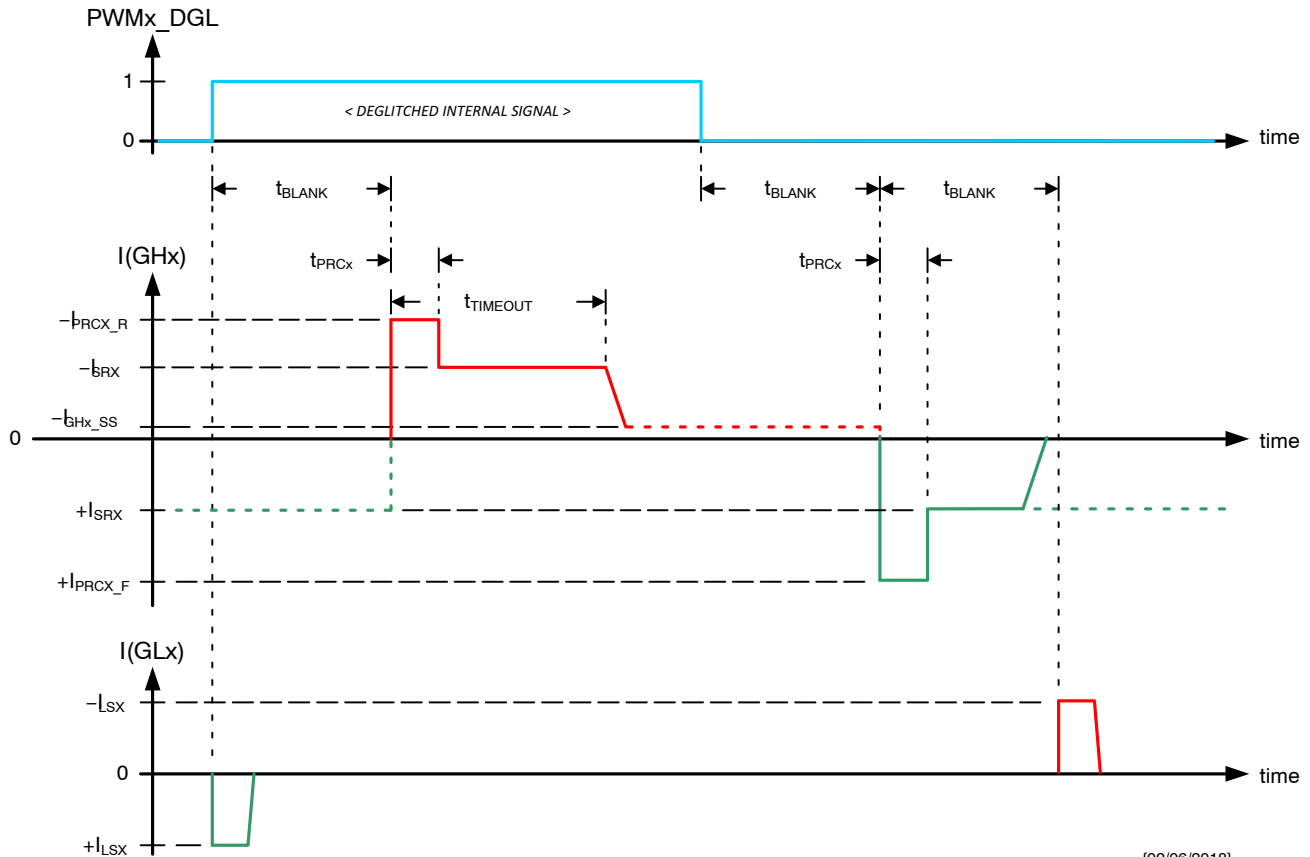
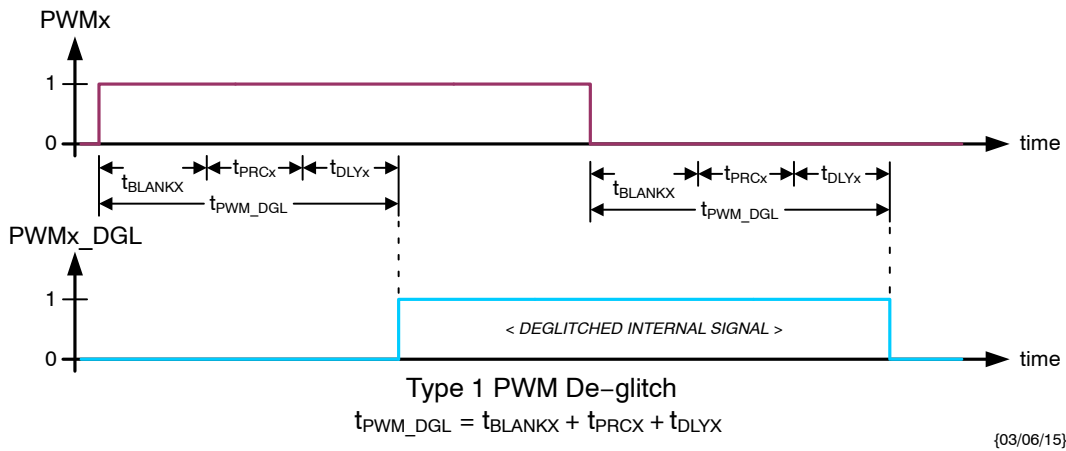
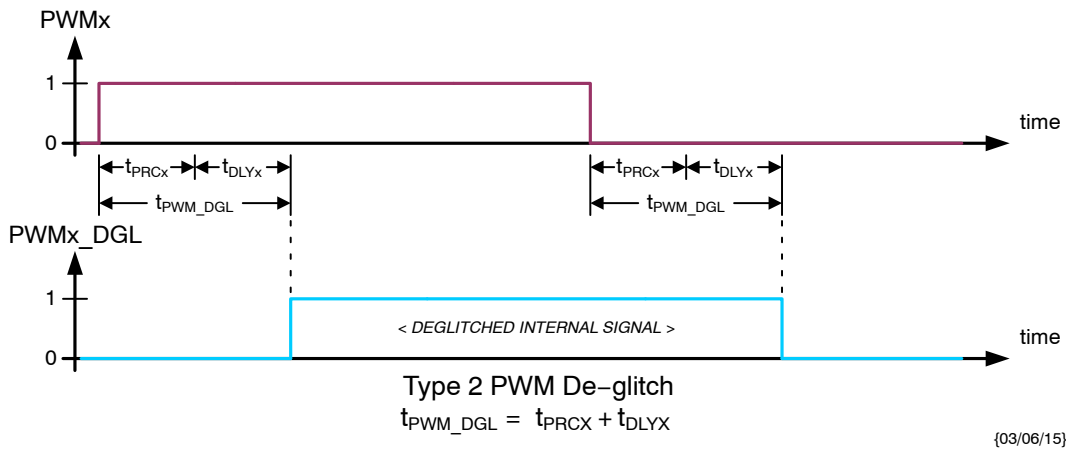
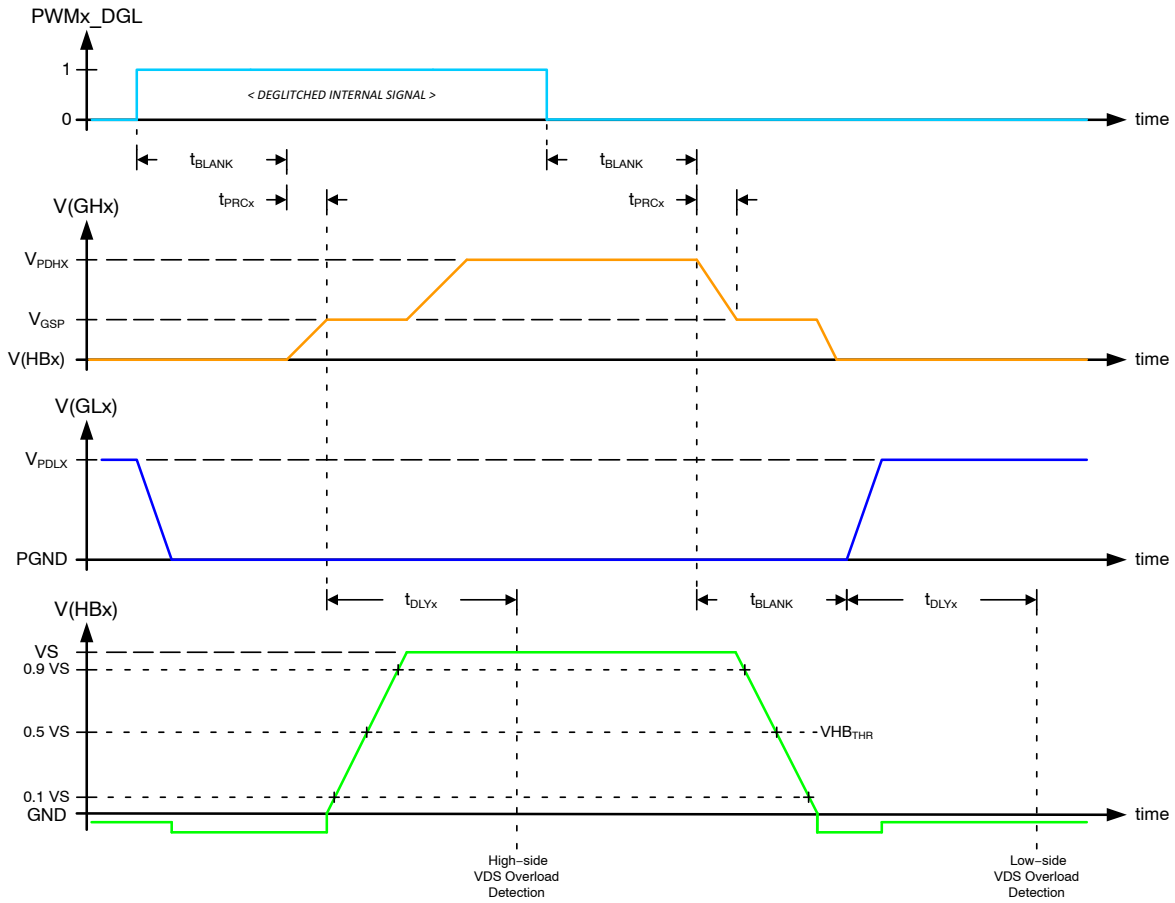

Figure 9. Gate Drive Current Evolution
Figure 10. Type 1 PWMx Input De-glitch – CR14.DGLx = 0
Figure 11. Type 2 PWMx Input De-glitch – CR14.DGLx = 1
Figure 12. HBx Output Switching in Half-Bridge Configuration
When multiple PWMx inputs are needed to be active, the scheduled PWM signals should be offset in time to avoid degradation of the VDS overload detection due to crosstalk (see § *Overload Protection*). The minimum offset should be based on the t_{PWM_DGL} times appropriate for the respective channels (see § *Switching Behavior of Half-bridge Drivers*, Figure 10 and Figure 11).
The external high-side NMOS switches are controlled with gate pre-charge and slew phases, while the external low-side switches are controlled via simple drive stages supplying a nominal 4x multiple of the selected high-side driver slew current (see Figure 9 and § *Electrical Characteristics: Pre-driver Slope Control*). The timing for the gate drivers is provided by the digital logic, where the key parameters can be programmed via SPI in order to adapt different MOSFET types and application switching speeds.
- adaptive PWM input de-glitch construction when in half-bridge configuration is selected by DGLx[6:0] bits (see Figure 10, Figure 11, Table 21 and Table 22).
In order to not overload the charge pump circuit in case of loss of VS or in case of a disconnected security switch, the steady state output current of the high-side gate drivers is limited to I_{GHX_SS} after $t_{TIMEOUT}$ (see I_{GHX} in Figure 9 and § *Electrical Characteristics: Half-Bridge Pre-Driver Outputs*).
When operating in PWM mode, type 1 de-glitch is selected when CR14.DGLx = 0 (see Figure 10) and the adapted time is given by:
Type 2 de-glitch is selected when CR14.DGLx = 1 (see Figure 11) and the adapted time is given by:
When operating in PWM mode, the timing of the gate drivers is according to Figure 12.
In the pre-charge phase ($V_{GHX} < V_{GSP}$) the GHx output delivers the selected rise (I_{PRCX_R}) or fall (I_{PRCX_F}) current for the selected time (t_{PRCX}), and in the slew phase ($V_{GSP} \leq V_{GHX} \leq V_{PDHX}$) the GHx output delivers the selected current (I_{SRX}) for up to the gate drive timeout time ($t_{TIMEOUT}$). After $t_{TIMEOUT}$, the GHx output delivers the timeout current (I_{GHX_SS}). The GLx output always delivers a multiple (I_{LSX}) of the selected slew current (see Figure 9 and § *Electrical Characteristics: Half-Bridge Pre-Driver Outputs, Pre-driver Slope Control*).
- the PWMx_DGL resulting from the channel's operating configuration (see § *Switching Behavior of Half-bridge Drivers*, Figure 10 and Figure 11);
The delay time t_{DLYX} is started after the adapted t_{PWM_DGL} at the start of the switch activation (see Figure 10 and Figure 11, and V(HBx) in Figure 12). In the case of the high-side MOS, the delay time is started at the end of the pre-charge time t_{PRCX} . In the case of the low-side MOS, the delay time is started concurrent with the GLx turn-on current (see I(GLx) in Figure 9). At the end of time t_{DLYX} the switching node voltage is compared with the appropriate VDS_{THR_R} or VDS_{THR_F} overload detection threshold (see § *Electrical Characteristics: Half-Bridge Diagnostics*).